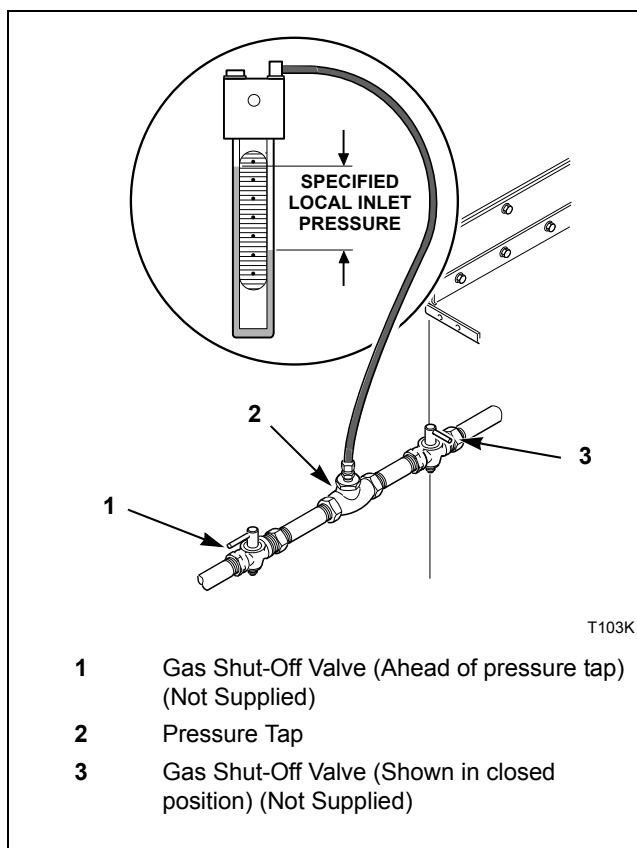

Figure 11
1. Disconnect electrical power from tumble dryer. Close gas shut-off valve to tumble dryer. Refer to *Figure 11*.